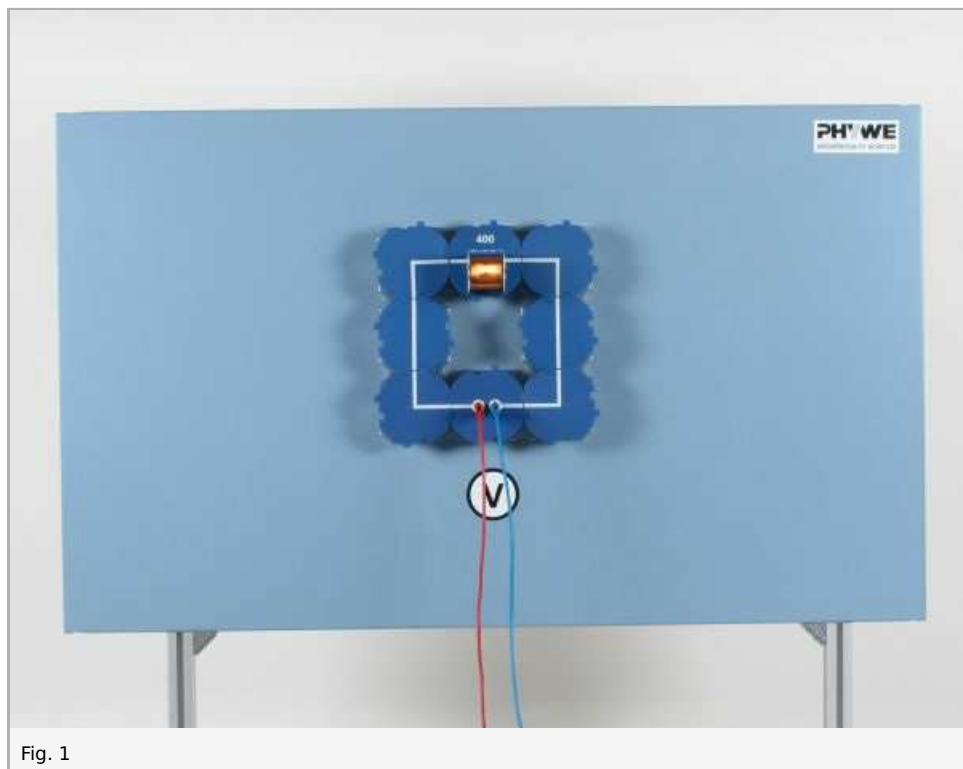

Fig. 1
- Set up the experiment as shown in Fig. 1